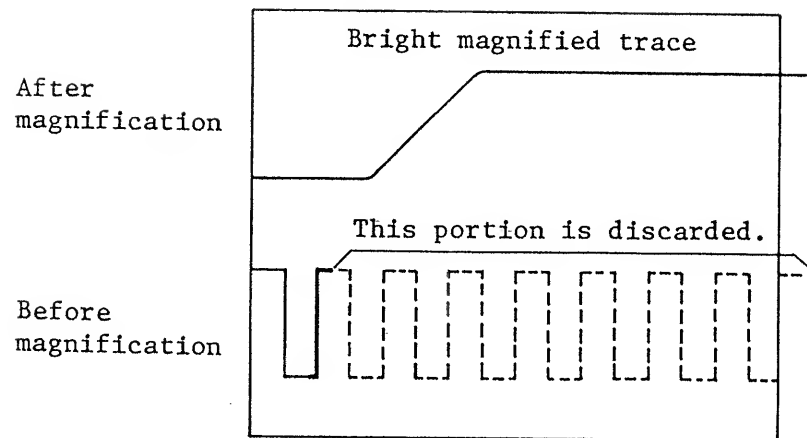

Figure 4-16
The operating method is the same as that of Subsections 4.9 and 4.10. Pull out the LEVEL knob (32) to set it in the B END A state, and a bright magnified trace shown in Figure 4-16 will be displayed.
Turn the A HOLD OFF knob (31) to the extreme clockwise position (B ENDS A position). A bright magnified trace as shown in Figure 4-16 will be displayed.